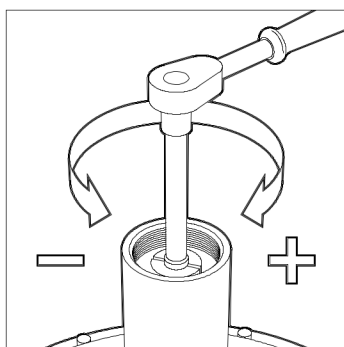

Fig. 4.
- 3) For L.P. 50mm and 80mm unit insert $\frac{1}{2}$ " square socket extension piece into square hole, or flat blade screwdriver into slot in spring adjuster. See Fig. 4.